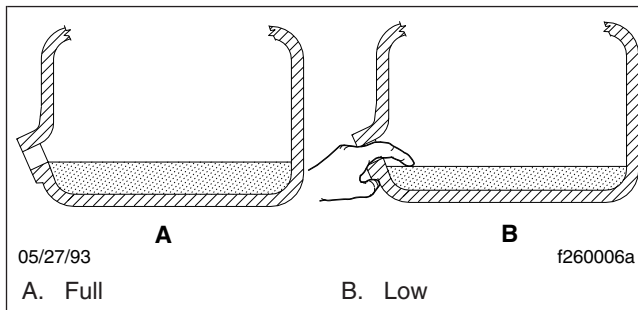

Fig. 1, Checking Transmission Fluid Level
7. Add fluid until it is level with the lower edge of the fill opening. See Fig. 1. If the transmission has two fill openings, add fluid to the level of both openings. See Table 1 for approved transmission lubricants. See Table 2 for Eaton Fuller transmission lubricant capacities.